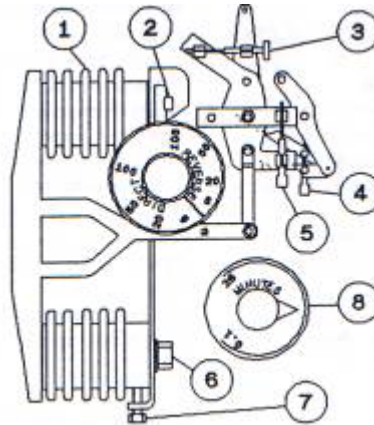

Figure 4. P+I control unit
##### **4.3 - Alignment of the Controller (refer to fig.4)**
- > If the output signal pressure does not increase, screw in the maximum Proportional Band alignment screw (pos.5 in figure 4) until the output pressure begins to increase. Arrived at 0.6 bar turn off the Integral valve.
- Put the Proportional Band Dial to 20% Reverse Action and adjust the minimum Proportional Band adjustment screw (pos.3 in figure 4) to obtain 0.6 bar.
- Put the Proportional Band to maximum (or infinity) Reverse Action and turn the maximum Proportional Band alignment screw (pos.5 in figure 4) until the output pressure is 0.6 bar.
- > If the output was less than 0.6 bar, turn clockwise the baffle adjustment screw (pos.4 in fig.4) by 1/4 revolution.
- > If the output was greater than 0.6 bar, unscrew the baffle adjustment screw (pos.4 in fig.4) by 1/4 revolution.
### 6. Direct and reverse action (refer to fig. 4)
**9. Spare parts (refer to figures 4, 5, 6, 7 and 8)**